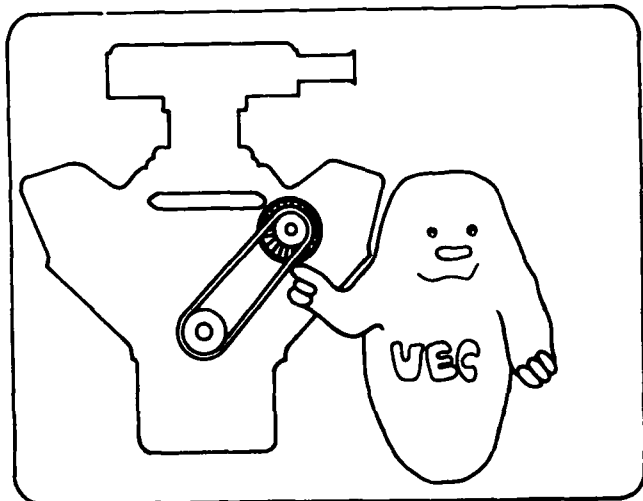

Figure 6-10
1. Figure 6-10 shows an air pump drive belt. List the checks that are necessary on this belt.